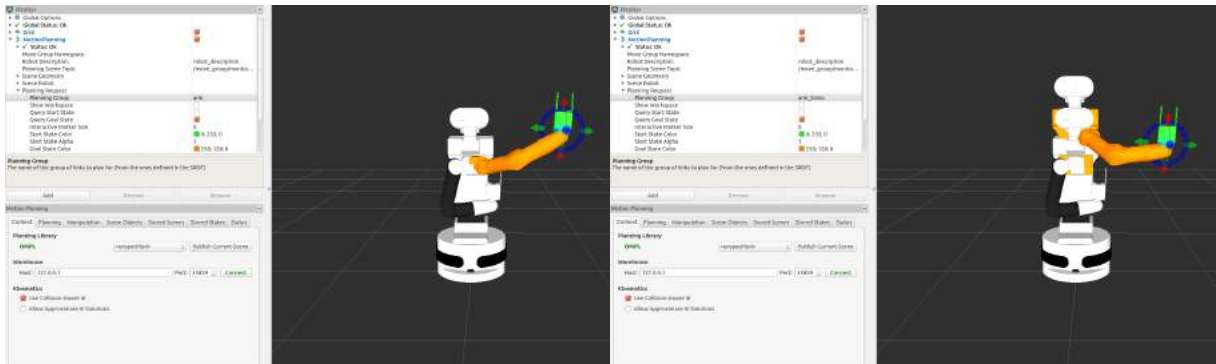

Figure 88: *MoveIt!* graphical interface in RViz. TIAGo with the planning group *arm* (left) and with the planning group *arm_torso* (right).
2. *MoveIt!* uses planning groups to generate solutions for different kinematic chains. Figure 88 shows that by selecting different planning groups, the GUI shows only the relevant “flying end-effectors”.